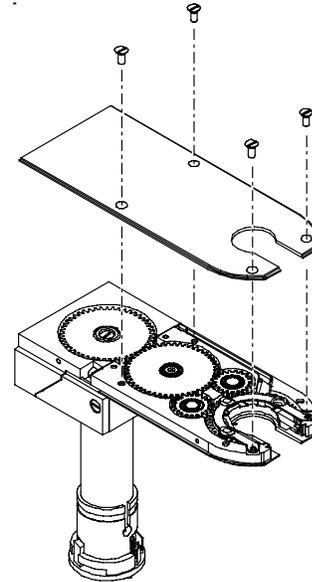

Figure 54 *Installing the Brush Side Cover*
7. Insert the four plastic flathead screws to secure the brush side cover. See Figure 54.